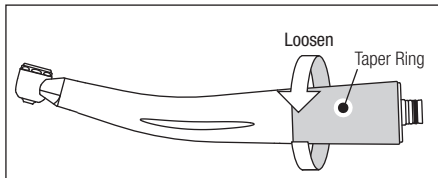

Fig. 7
- 1) Loosen and Remove the Taper Ring at the rear of the handpiece. (Fig. 7)
- 1) Remove the handpiece from the coupling and loosen the Taper Ring to remove. (Fig. 7)